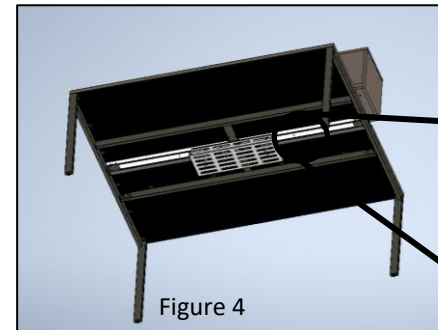

Figure 4
3. Use the 5/32" Allen wrench to tighten the set screws against the unit until it is secure (Figure 4)